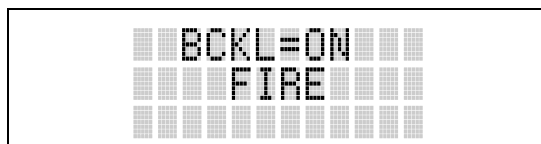

Figure 9-10: Backlight Menu Display
- Press . The backlight menu item is activated. Line one shows the active menu item and its current parameter setting. Line two shows the currently selected system or group name (see Figure 9-10).